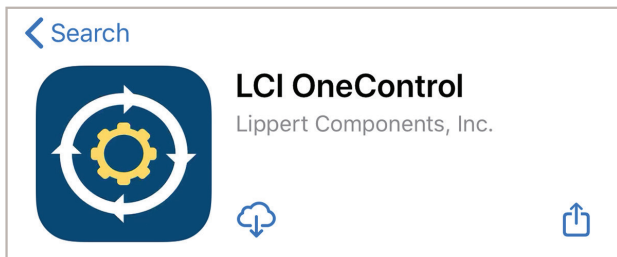

Fig.1
1. Download the LCI OneControl app (**Fig.1**) for either an iOS or Android smart phone.